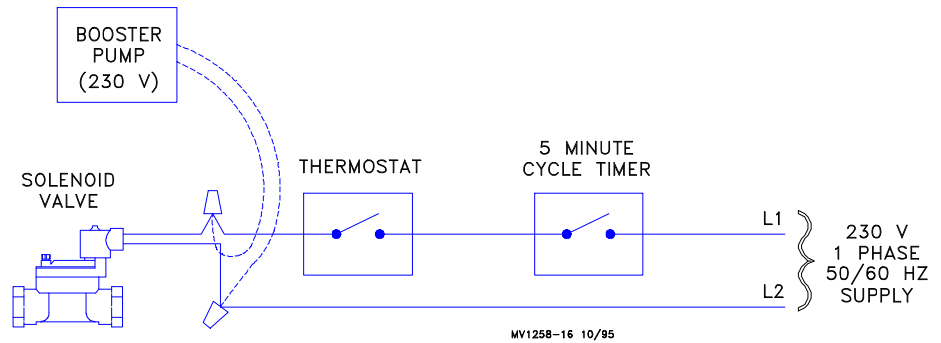

Figure 12. System wiring when controlled by a single thermostat and cycle timer.
- n Adding an ON/OFF Timer in series with the single thermostat provides a means of reducing excessive water runoff at low set point temperatures. The time should be set so that the “ON” time is long enough for the pad to be completely wetted. The “OFF” time should be short enough that the pad does not dry out. Refer to **Figure 12** for wiring information for this type of system.